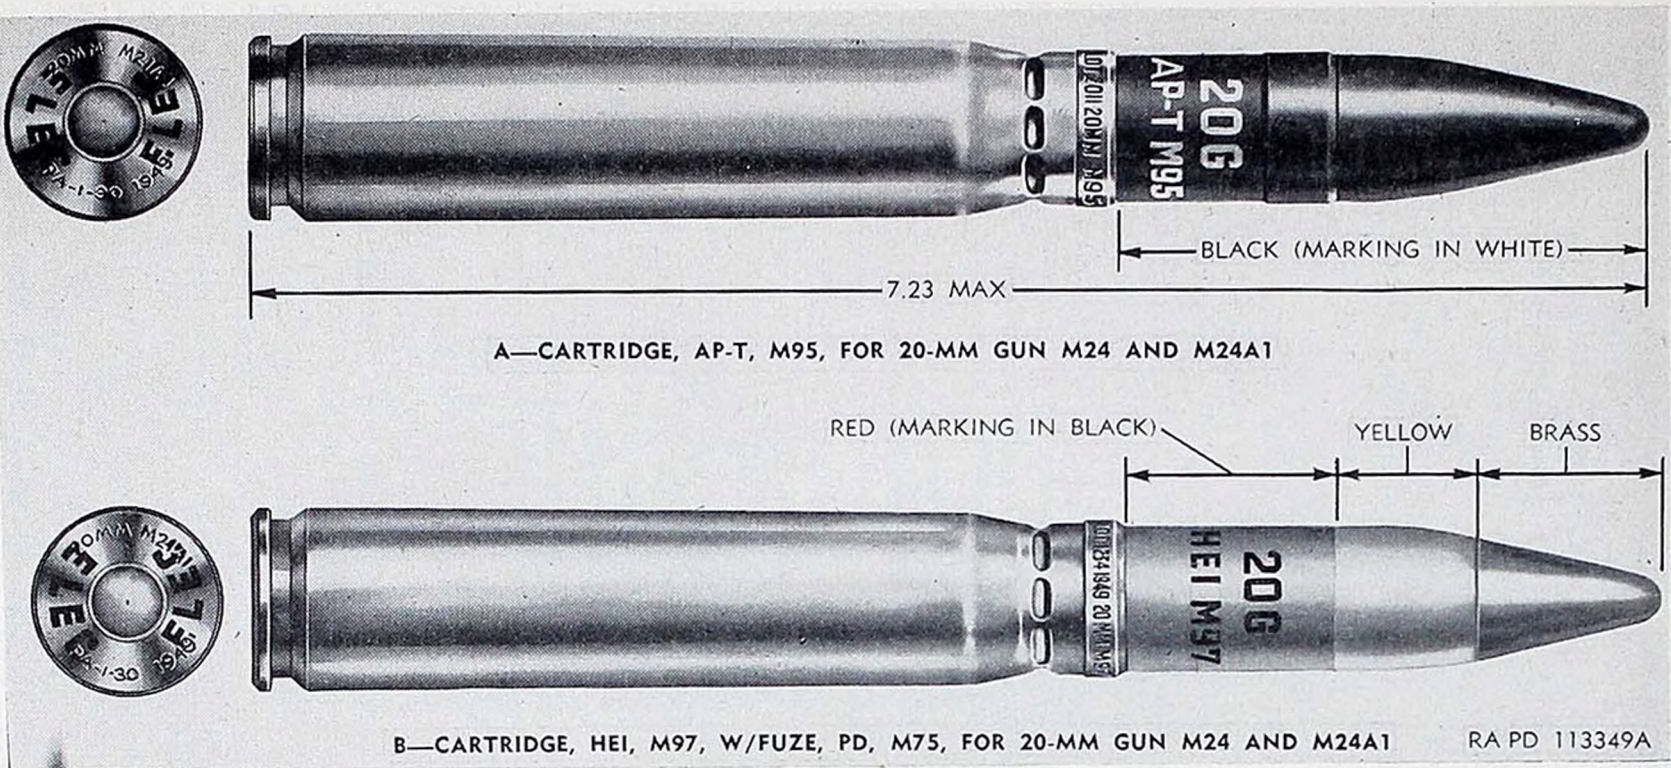

Figure 163. Armor-piercing with tracer and high-explosive incendiary cartridge for guns M24, M24A1, and M24E2.
a. General. Ammunition and ammunition components are completely identified by the painting and marking (including an ammunition lot number) that appears on all original packing containers and, when practicable, on the items themselves, as shown on figures 163 and 164. Links are shown in figure 105.
d. Painting. Ammunition is painted primarily to prevent rust and to provide, by the color, a means of identification as to type, due consideration being given to requirements for camouflage. The color scheme is as follows (figs. 163 and 164) :